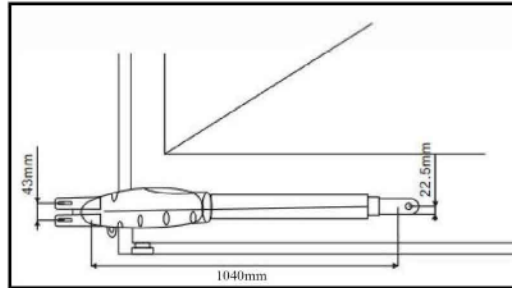

Figure 11
- 10) Refer to Figure 11, the distance between front plate of the motor and rear plate is 798mm, the difference in height is 22.5mm